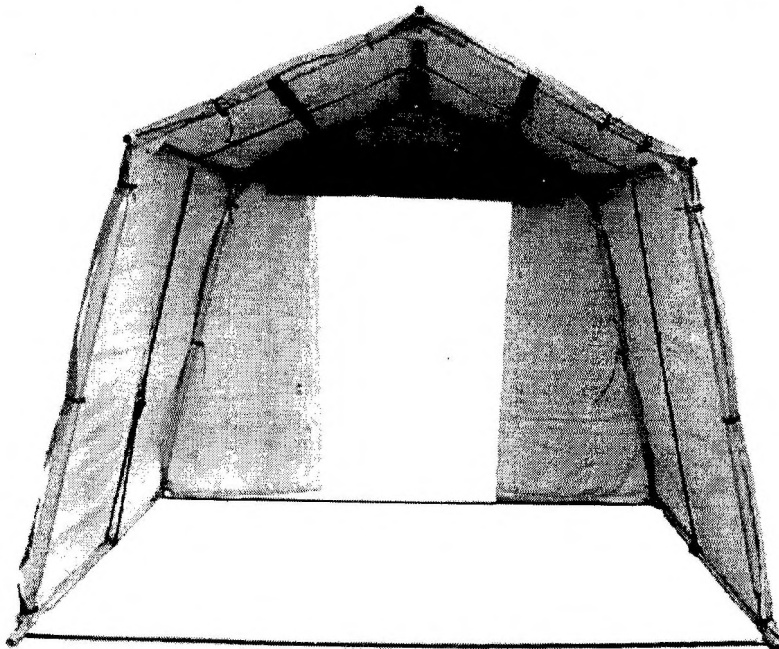

Figure 67: Access (Typical arrangement)
74. To provide access the centre end wall panels should be rolled up from the inside Fig 67.